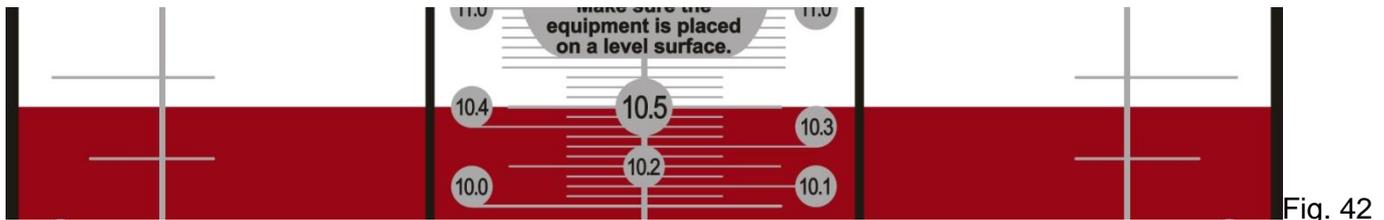

Fig. 42
12.4 Read the waste oil tank gauge against the scale (read middle scales), for example, it shows 10.5L as high liquid level in Fig.42.